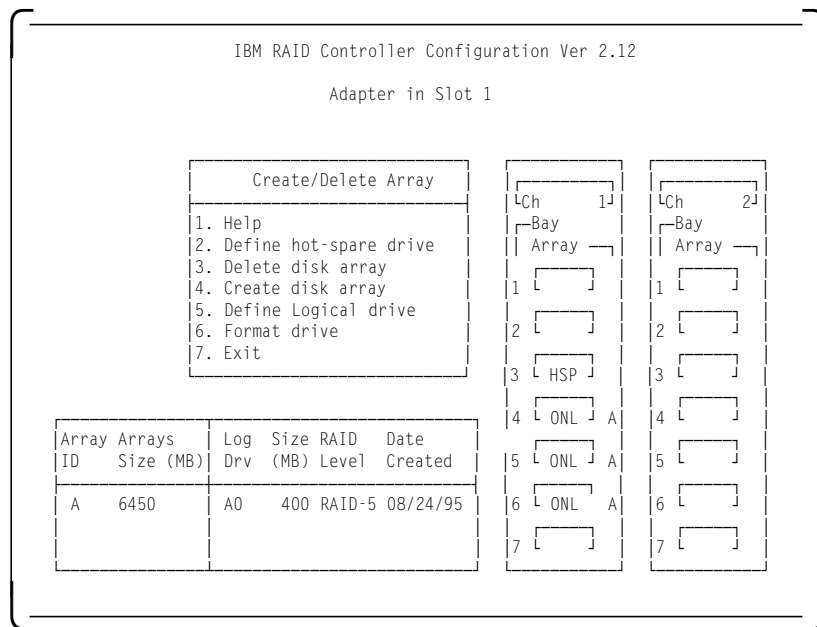

Figure 66. RAID Configuration Program - Size Definition
- 6. As shown in Figure 66 on page 111, information about the new logical drive appears in the logical drive list.